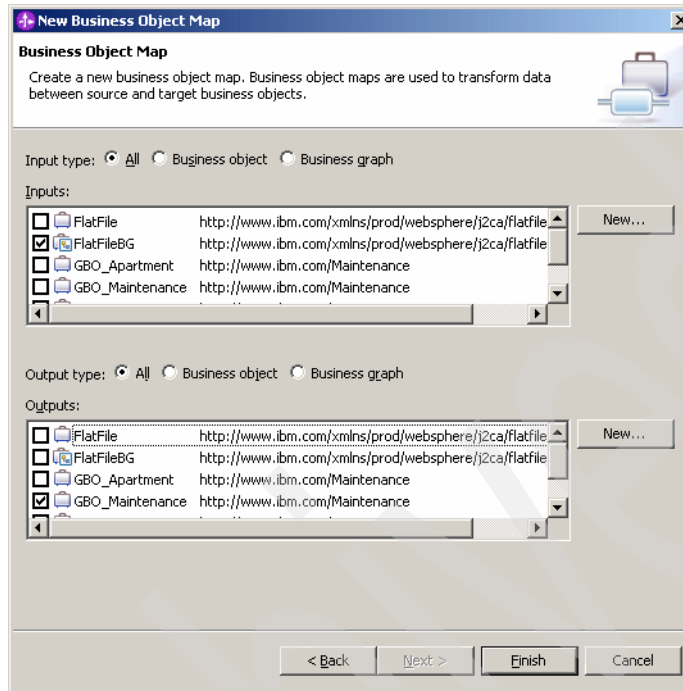

Figure 3-16 Select data types
11. Click **Finish** (Figure 3-16).